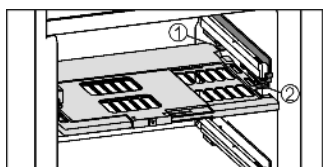

Fig. 13
- ▶ To insert the humidity control plate: Insert the cover mouldings of the plate into the rear holder Fig. 13 (1) from underneath and engage them in the holder Fig. 13 (2) at the front.